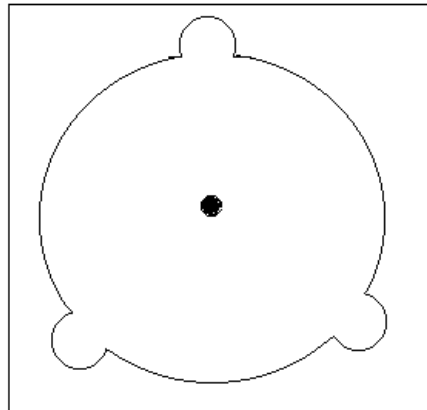

Figure 19
- a) Cut out the ceiling template supplied as per figure 19 and mark the centre point of the dome position on the ceiling.